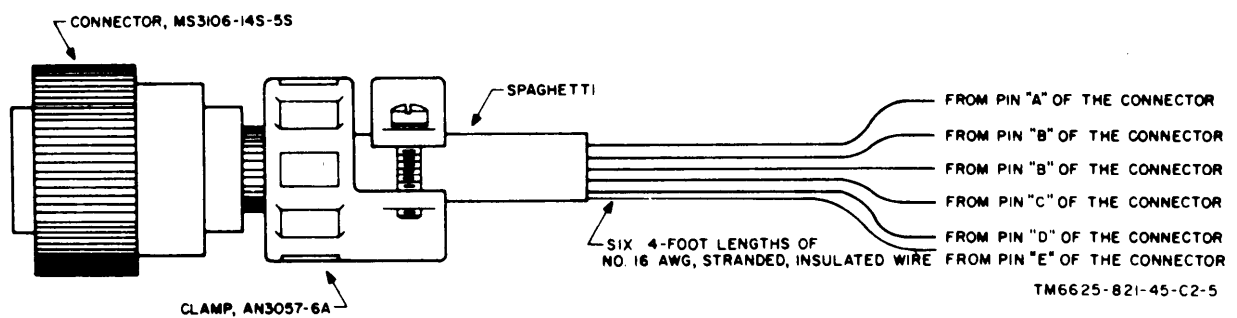

Figure 3-5. Fabricated cable for the BEARING INDICATOR, construction details.
(1) Fabricated cable used to adjust the BEARING INDICATOR (fig. 3-5).
- (1) Connect the fabricated cable to the connector at the rear of the BEARING INDICATOR. A detailed drawing of the fabricated cable is shown in figure 3-5.
- (2) Connect the wire from pin A of the connector on the fabricated cable to pin M of connector P1 on the test set.
- (3) Connect one of the wires from pin B of the connector on the fabricated cable to pin H of connector P1 on the test set.
- (4) Connect the wires from pins C and D of the connector on the fabricated cable to the INPUT of the voltmeter.
- (5) Connect wire from pin E of the connector of the fabricated cable to the test set connector pin Pi-E.